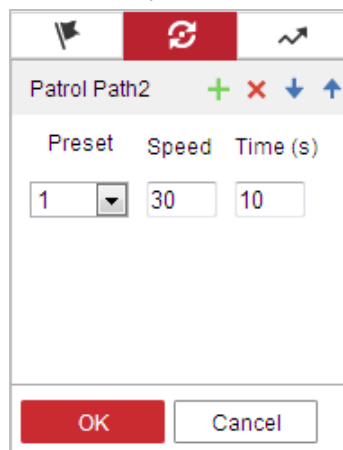

Figure 4-7 Adding Presets
3. Click  to enter the adding interface of preset as shown in Figure 4-7.